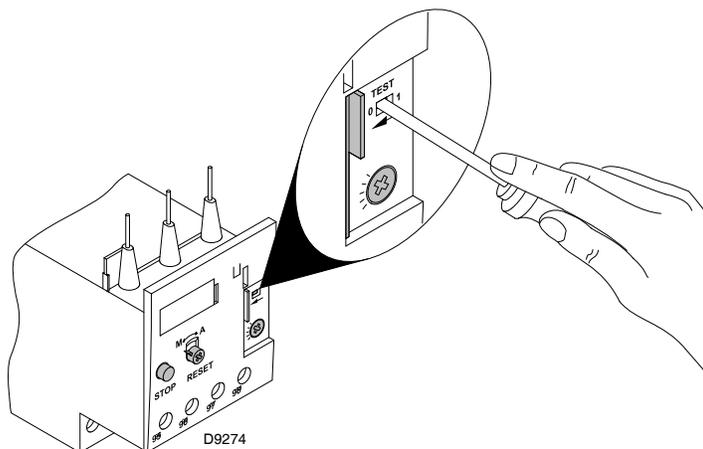

Fig. 30
- To test the thermal relay, insert a screwdriver in the window "TEST" (Fig. 30) and move it in the sense of the arrow (towards right).